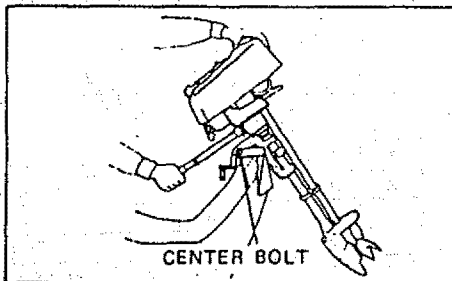

Figure 13
- a. Always tilt motor by lifting on rear of shroud. DO NOT PUSH DOWN ON THE STEERING HANDLE. When removing the motor from the boat, raise the outboard in upward direction until the propeller clears the transom. Hold the motor upright long enough to allow all water to drain from the exhaust pipe. When you find it difficult to hold the motor upright, tighten the Center Bolt increasingly for desired effort. (See Figure 13).